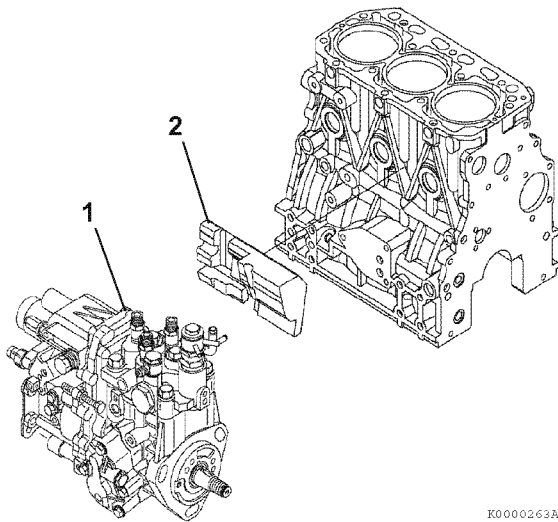
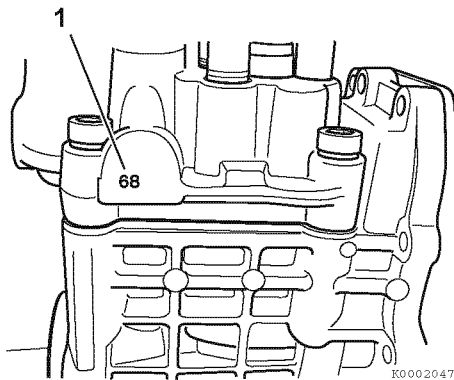

Figure 7-20
Figure 7-21
*Note: Some model engines may require the intake manifold and fuel injection pump insulator (2, **Figure 7-20**) be removed to access the inner fuel injection pump (1, **Figure 7-20**) retaining nuts.*
23. Remove the fuel injection pump (1, **Figure 7-20**). For purposes of future injection timing purposes, record the fuel injection pump timing index number located on the boss on the engine side (back) of the of the fuel injection pump (1, **Figure 7-21**).